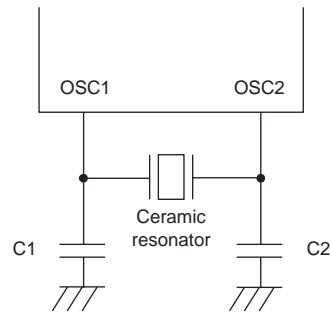

Fig. 3 Ceramic Resonator Oscillation Circuit
| Ceramic resonator OSC                               |              |            | Fig.3  |                      |         |     | Table 1      |            |
| Ceramicresonatoroscillation                        | IDDOP(3)       | VDD        | Fig.3 4MHz, 1 / 3 predividerVDD=4 to 6V  |         | 2.0   | 5    | mA   |
|  | IDDOP(4)       | VDD        | Fig.3 4MHz, 1 / 4 predividerVDD=4 to 6V  |         | 2.0   | 4    | mA   |
| External clock   | IDDOP(5)       | VDD        | Fig.3 400kHz   |         | 0.5   | 2    | mA   |
|  | IDDOP(6)       | VDD        | Fig.3 800kHz VDD=4 to 6V   |         | 1.5   | 4    | mA   |
| OscillationcharacteristicsCeramic OSCFrequency | fCFOSC(*5) | OSC1, OSC2 | Fig.3 fo=400kHz  | 384     | 400   | 416  | kHz  |
|  |                | OSC1, OSC2 | Fig.3 fo=800kHz, VDD=4 to 6V   | 768     | 800   | 832  | kHz  |
|  |                | OSC1, OSC2 | Fig.3 fo=1MHz, VDD=4 to 6V   | 960     | 1000  | 1040 | kHz  |
|  |                | OSC1, OSC2 | Fig.3 fo=4MHz, 1 / 3 predivider1 / 4 predivider, VDD=4 to 6V   | 3840    | 4000  | 4160 | kHz  |
- (\*1) When oscillated internally under the oscillating conditions in Fig.3, up to the oscillation amplitude generated is allowable.